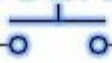

Figure-22. Component after placing on line
- Click on the electrical line to which you want to connect the component or click in the drawing area to place the component; refer to Figure-22. Note that after placing the component, the **Insert/Edit Component** dialog box will be displayed as discussed earlier.